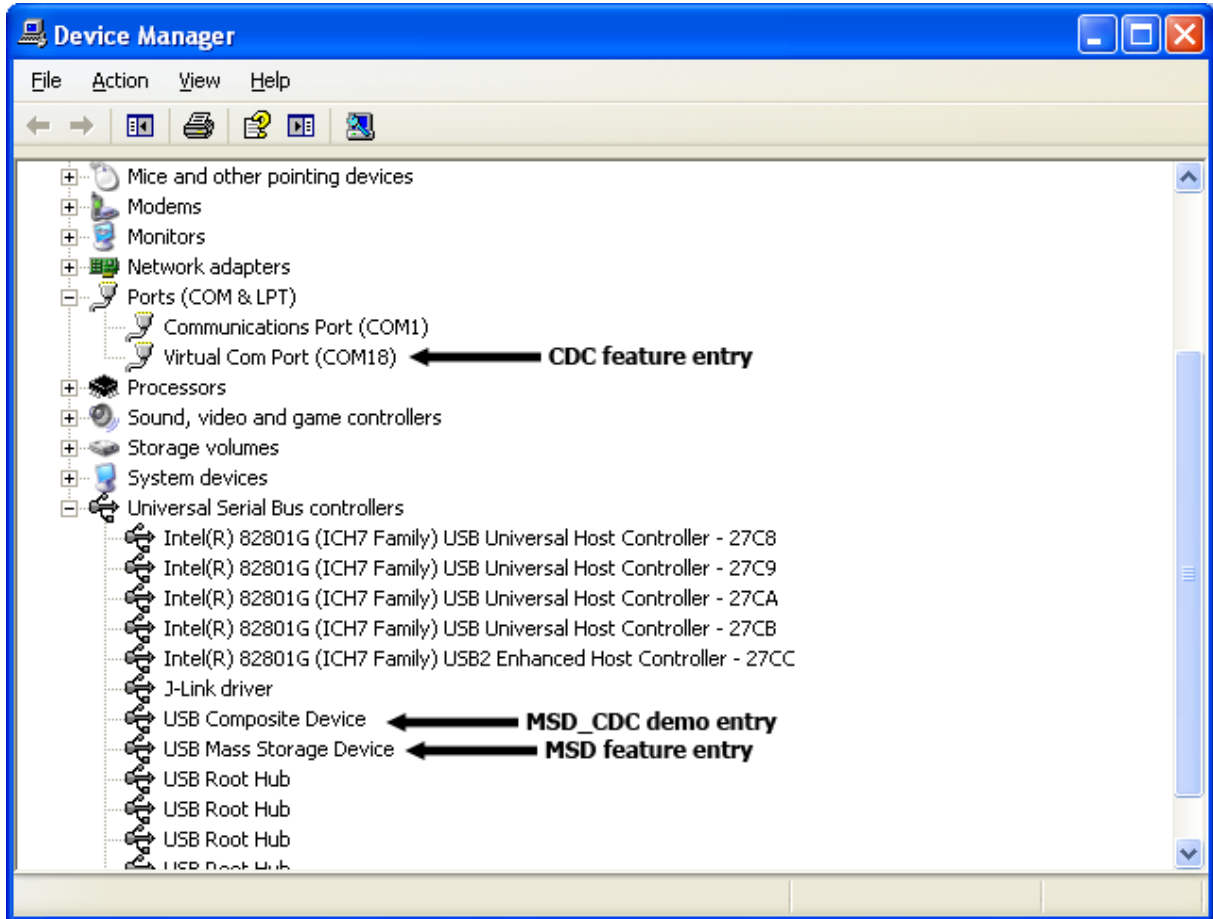

Figure K-21. Device manager dialog
- To verify whether the USB Composite Device has been installed properly or not, you must see the each feature devices and composite device entry in the device manager as shown in Figure K-21.